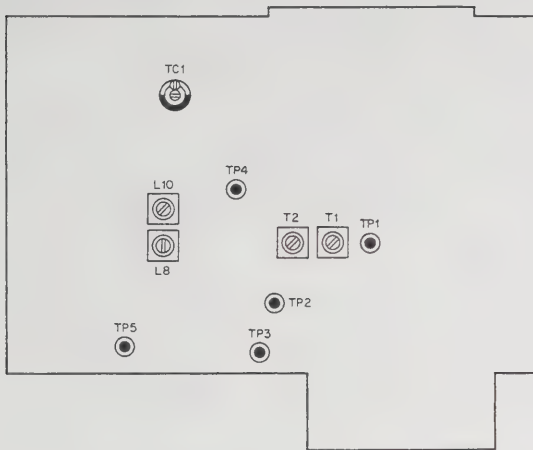

Fig. 33 Counter mixer unit (DG-1: Option)
- 2) Adjust the trimmer TC1 in the counter mix unit for $1 \text{ MHz} \pm 5 \text{ Hz}$ (refer to **Fig. 33**).
- 2) Connect RF VTVM to TP2 in the counter-mixer unit (X48-1150-00) and adjust T1 and T2 in the same unit until the peak value is obtained (output is approx. 0.12 to 0.2V) (refer to **Fig. 33**).